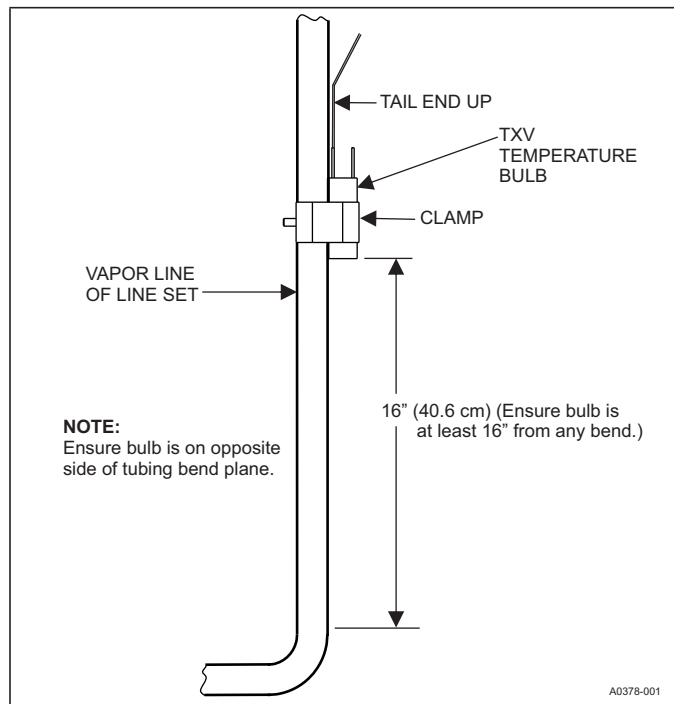

FIGURE 20: Vertical Temperature Bulb Orientation
- b. If bulb installation is made on a vertical run, ensure that the bulb is a minimum of 8 inches (20.3 cm) away from elbow coming out of the coil. Position the bulb with the tail of the bulb at the top, so that the bulb acts as a reservoir. See Figure 20.